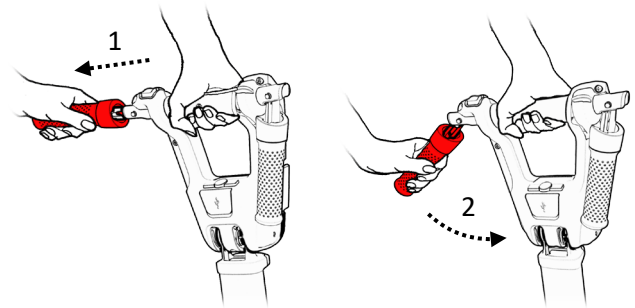

Figure 33
2. Fold both sides of the handle bar (see Figure 33).